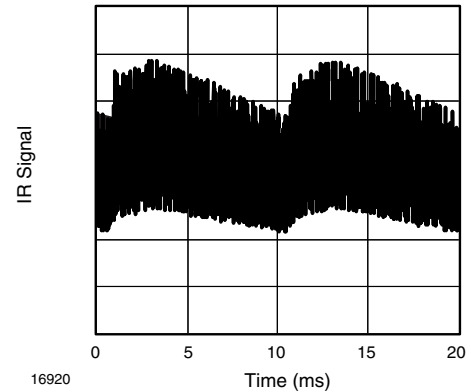

Fig. 14 - IR Disturbance from Fluorescent Lamp with Low Modulation
- Modulated IR signals from common fluorescent lamps (example of noise pattern is shown in Fig. 14 or Fig. 15)